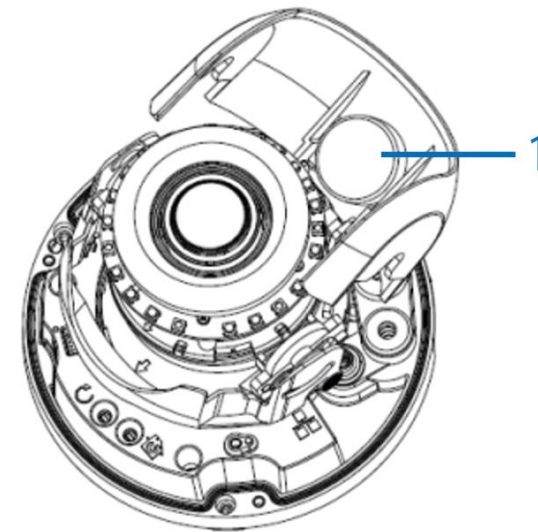

Figure 6
2. Remove the desiccant from the packaging and insert the desiccant (1) (Figure 6) into the tilt adjustment.